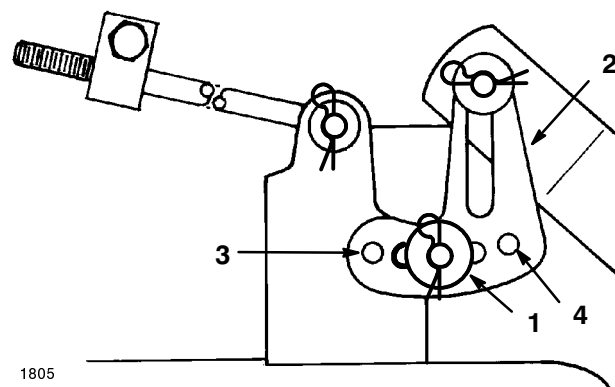

Figure 53
- Remove the hair pin cotter and washer from the leveling bracket (Fig. 53). To level the blade(s), reposition the leveling bracket(s) in a different hole and install the washer and hair pin cotter. (Fig. 53). A front hole lowers the blade height and a rear hole raises its height. Adjust both sides as required.